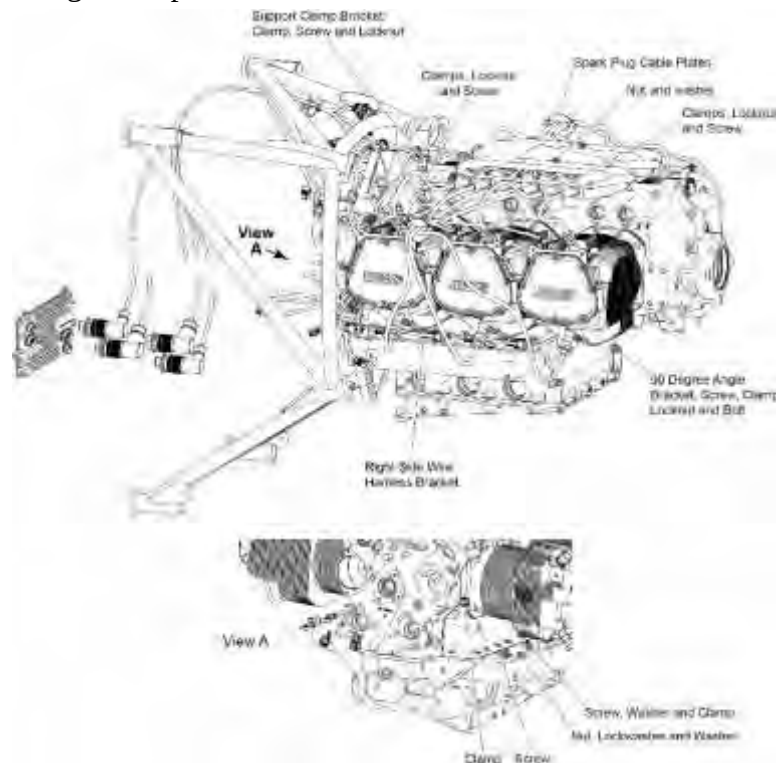

Figure 52
- D. Disconnect the wiring harness (Figure 52) from the ECU per the airframe manufacturer's instructions.
- K. If a harness is to be replaced with a new harness, identify the location of each clamp (Figures 52 and 53) by a label on the clamp.
- | C. Put the wiring harness on the engine as shown in Figures 52 and 53.
- | E. Install the left and right side harness brackets (Figures 52 and 53) on respective sides of the wiring harness with the attaching screws, washers, and new lock nuts. Torque the hardware as per the Standard Torque Tables in the latest revision of the **Service Table of Limits - SSP-1776**.